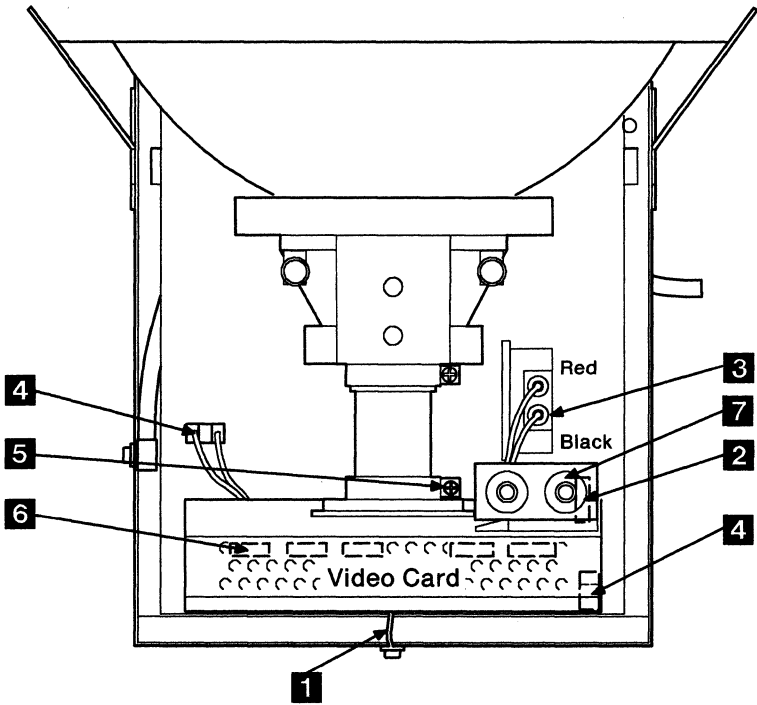

Figure 9. Removing the video card
7. Refer to Figure 9 on page 19.